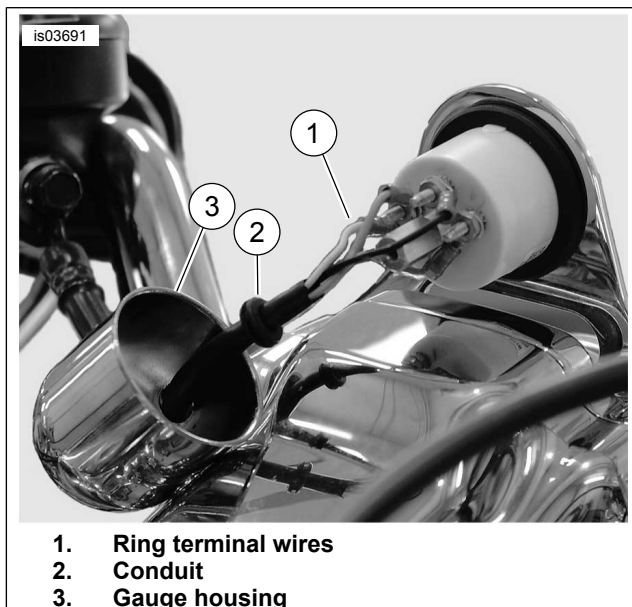

Figure 13. Gauge Wiring (XL Custom Shown)
- See Figure 13. Thread the ring terminated wires (1) and conduit (2) into the gauge housing (3).